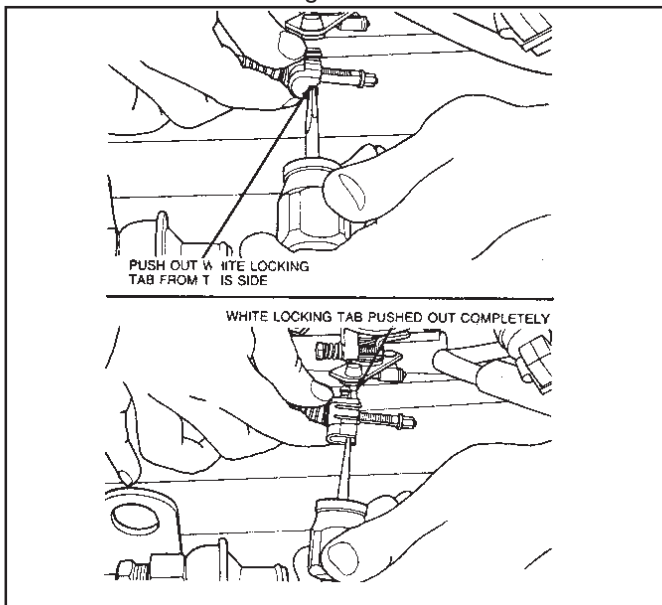

Figure 27
7.11 Push out locking tab. (See Fig. 27.)